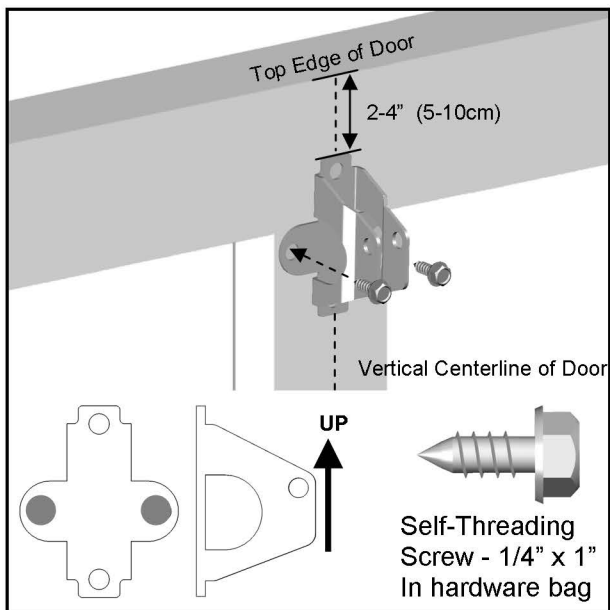

Fig.1
1. Position the Door Bracket on the centerline of the door approximately 2" - 4" (5-10cm) below the top edge of the door, as shown in Fig.1.